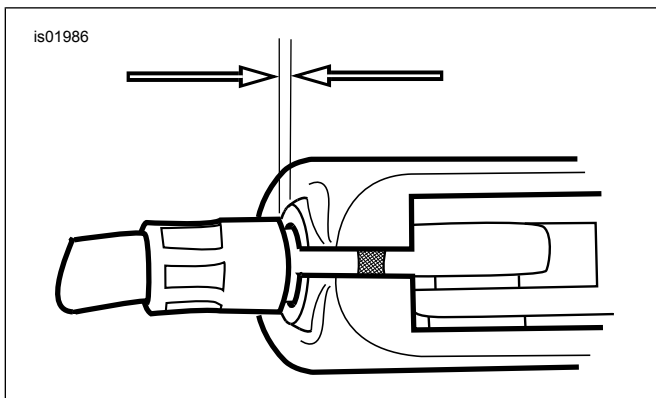

Figure 2. 1/16-1/8 inch (1.6-3.2 mm) Clutch Cable Free Play
- See Figure 2. Turn cable adjuster away from jam nut until slack is eliminated at hand lever. Pull clutch cable ferrule away from clutch lever bracket to check free play. Turn cable adjuster to obtain 1/16-1/8 inch (1.6-3.2 mm) free play between end of cable ferrule and clutch lever bracket.